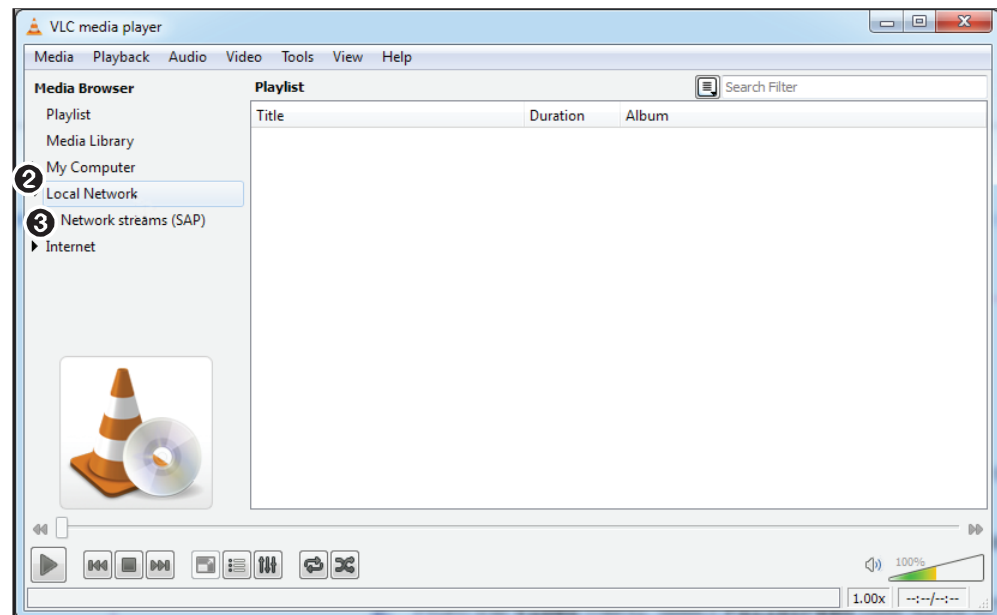

Figure 72. Select Local Network Streams
2. From the left menu column, select **Local Network** (see figure 72, ②).
3. Select **Network streams (SAP)** (③).